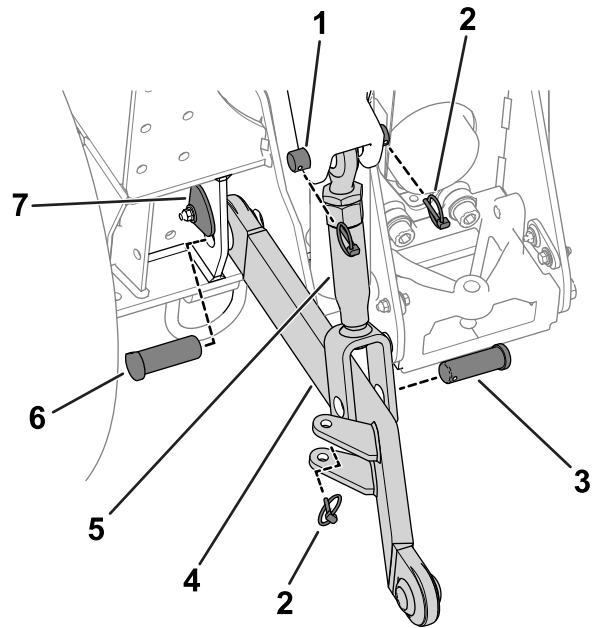

Figure 3
- A. Raise the pin plate (Figure 3), exposing the pin.
- B. Remove the lower pin (Figure 3).
- C. Position the draft link as shown in Figure 3.
- D. Insert the lower pin through the frame and draft-link joint (Figure 3).
3. Use a clevis pin and a lynch pin to secure the lift link to the draft link (Figure 3).
**Note:** Figure 3 and Figure 4 show link installation on the left side of the machine. Repeat this procedure for the right side of the machine.
1. Use a lift-link pin and 2 lynch pins to secure the lift link to the machine lift arms (Figure 3).